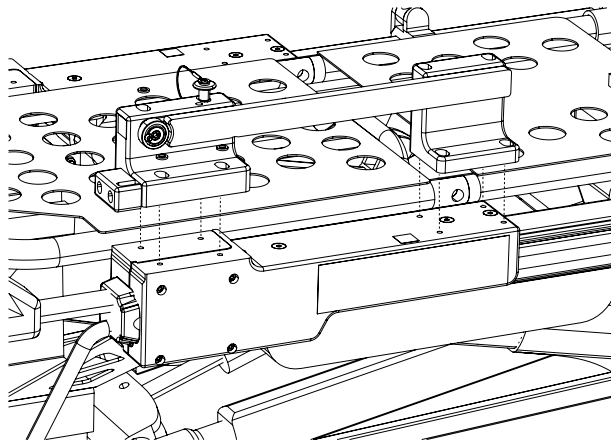

Figure 34: XTPA-PPXT Rail position on XTPA-PPXT Rail clamp block
2. Position the XTPA-PPXT Rail on the XTPA-PPXT Rail clamp block, ensuring that the screw holes are aligned and that the rail is facing outwards (Figure 34).